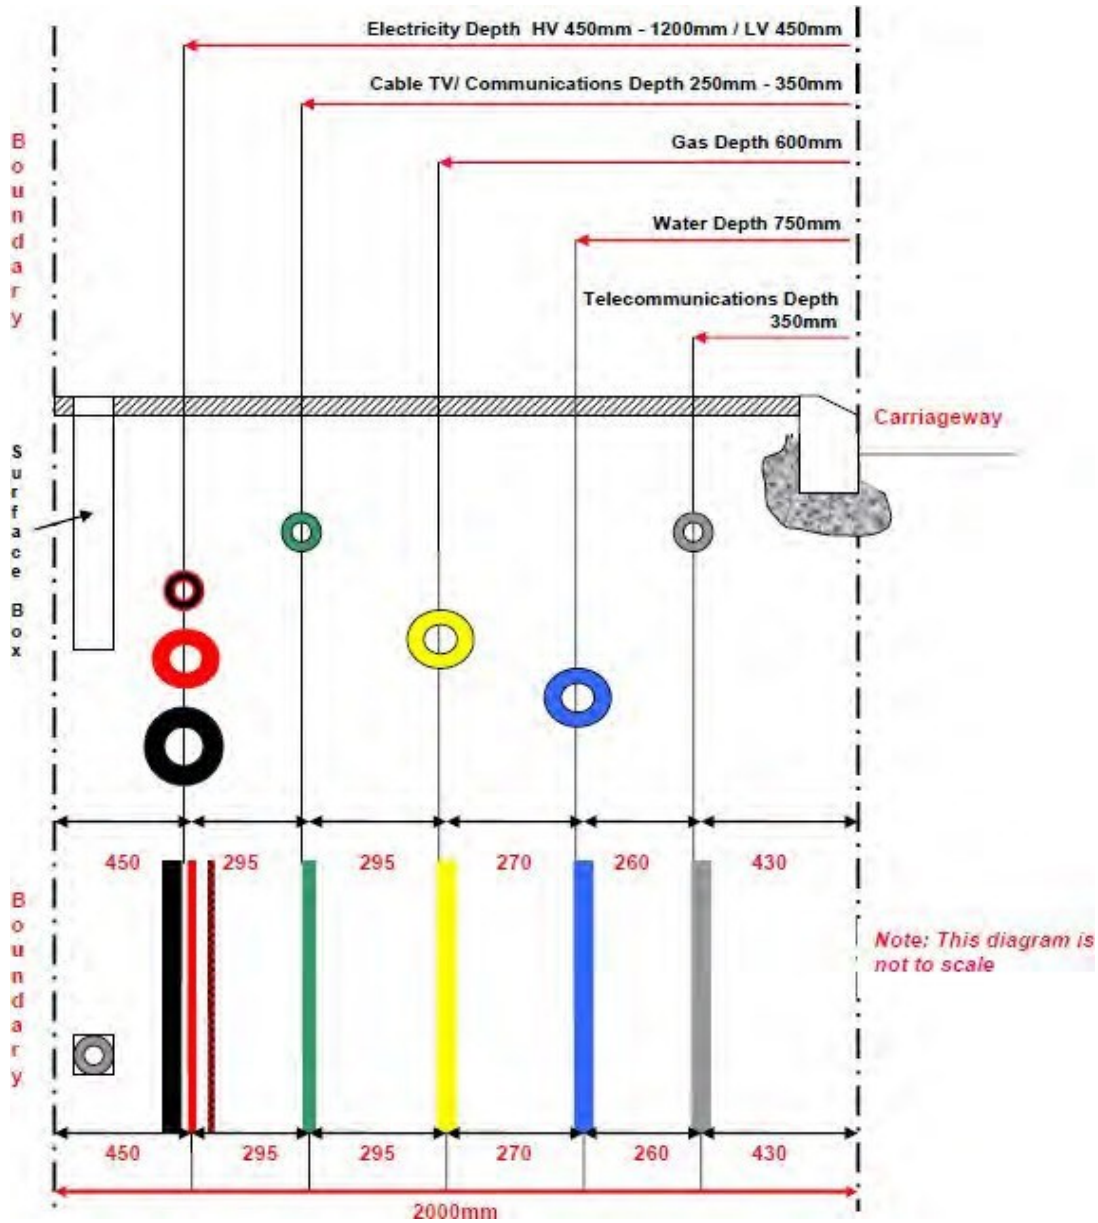

Figure 2 Recommended Positioning of Utility Apparatus in a 2 metre Footway
10. A minimum radial clearance of 300millimetres should be allowed between any plant being installed and existing AWL apparatus. - We reserve the right to increase this distance where strategic assess are affected. This is clearly marked in figure 2.
16. No other below ground assets should be laid directly along the line of our assets irrespective of clearance, in accordance with NJUG, see Figure 2 below for details. No manhole or chamber shall be built over or adjacent to any AWL assets in accordance with NJUG Guidelines volume 1. Clear distances to above ground structures are set out in table 1 in section 4.